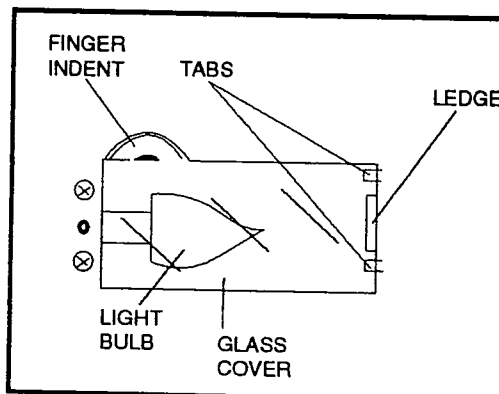

Figure 15
4. Carefully push Glass Cover all the way toward the right (away from screws). Place your index finger into Finger Indent and carefully lift Glass Cover out. See Figure 15. Carefully set Glass Cover aside.
7. Replace Glass Cover. Be sure Glass Cover fits between the ledge and the two small tabs as shown in Figure 15.